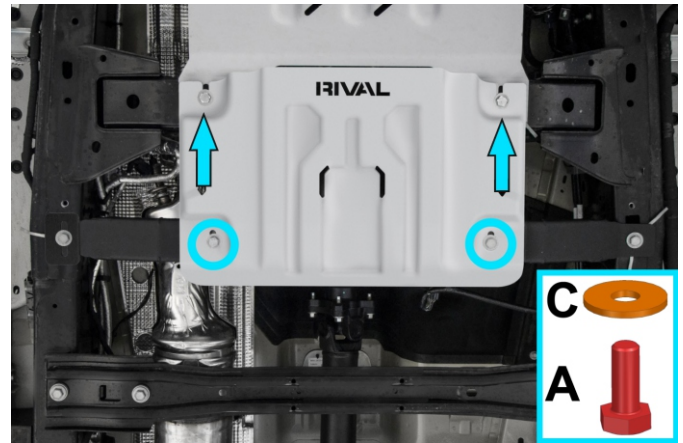

Fig. 8
5. Slide transfer case skid plate (item 1) over previously installed M10x1.5x30 bolts and M10 washers from step 4. Secure the rear of the skid plate to the previously installed crossmember (item2) using M10x1.5x30 bolts (item A) and M10 washers (item C) as shown in fig.8. If you have the Rival transmission skid plate slide transfer case skid over previously loosened bolts and under transfer case skid as pictured in fig.8.